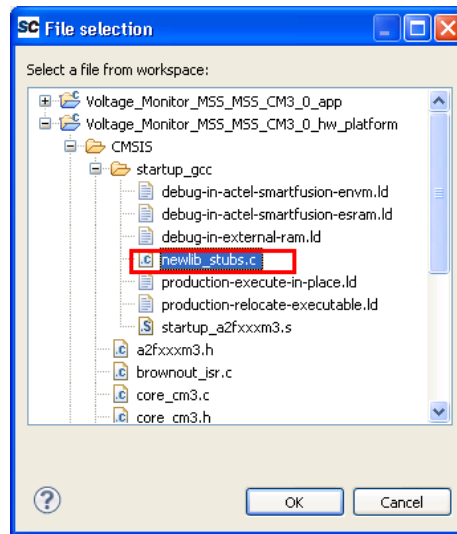

Figure 32 · File Selection Window
9. Click **Workspace** and add the **newlib\_stubs.c** file under **Voltage\_Monitor\_MSS\_MSS\_CM3\_0\_hw\_platform> CMSIS > startup\_gcc> newlib\_stubs.c** as shown in Figure 32 . .